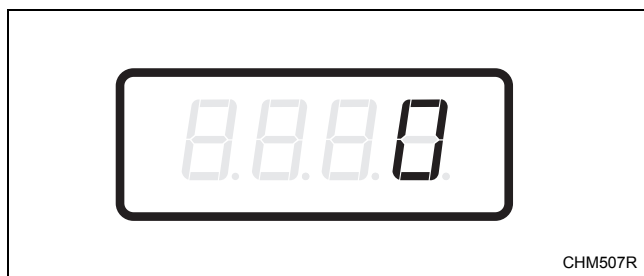

Figure 14
4. When “AtS3” appears in the display, press the START (enter) keypad. There are five digits in the Normal Cold Vend Price. The fifth digit will appear in the display and will flash one (1) second on, one (1) second off. Refer to *Figure 14*.